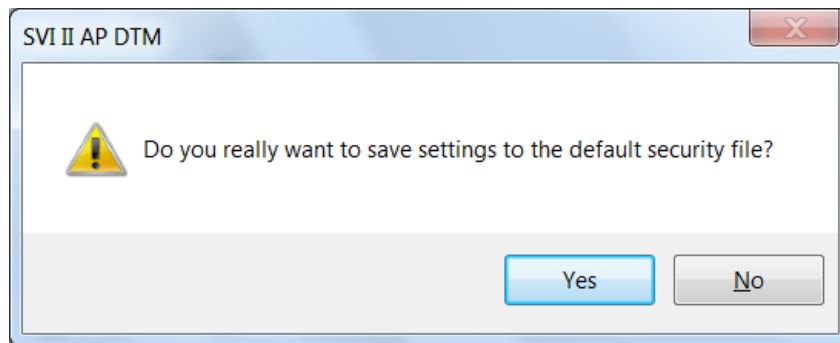

Figure 103 Save Security Settings to Default File Confirmation
1. Click and a confirmation dialog appears (Figure 103).